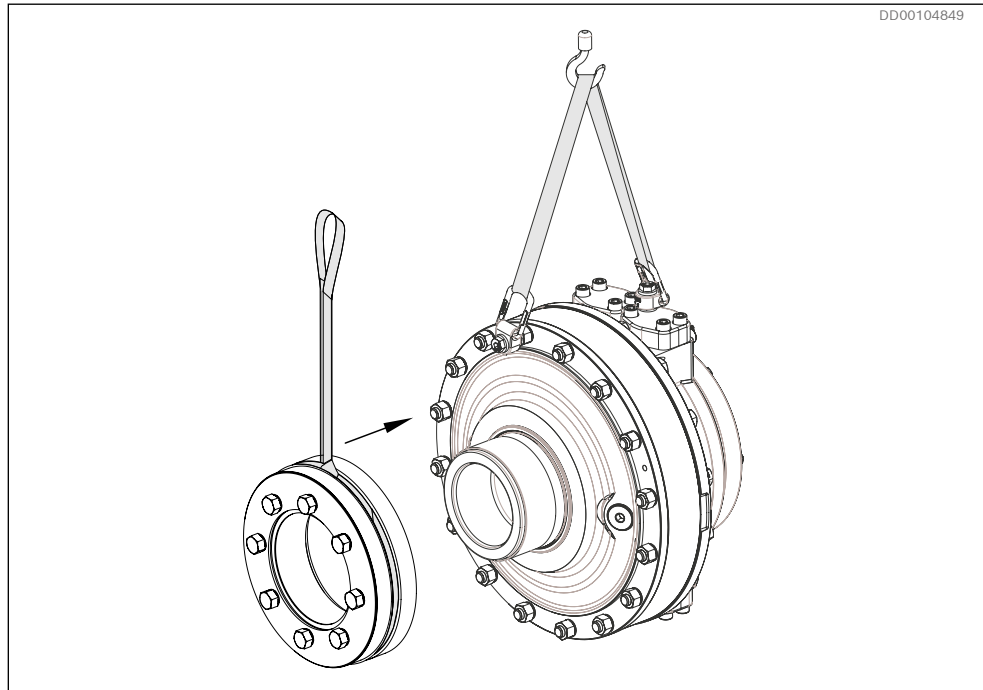
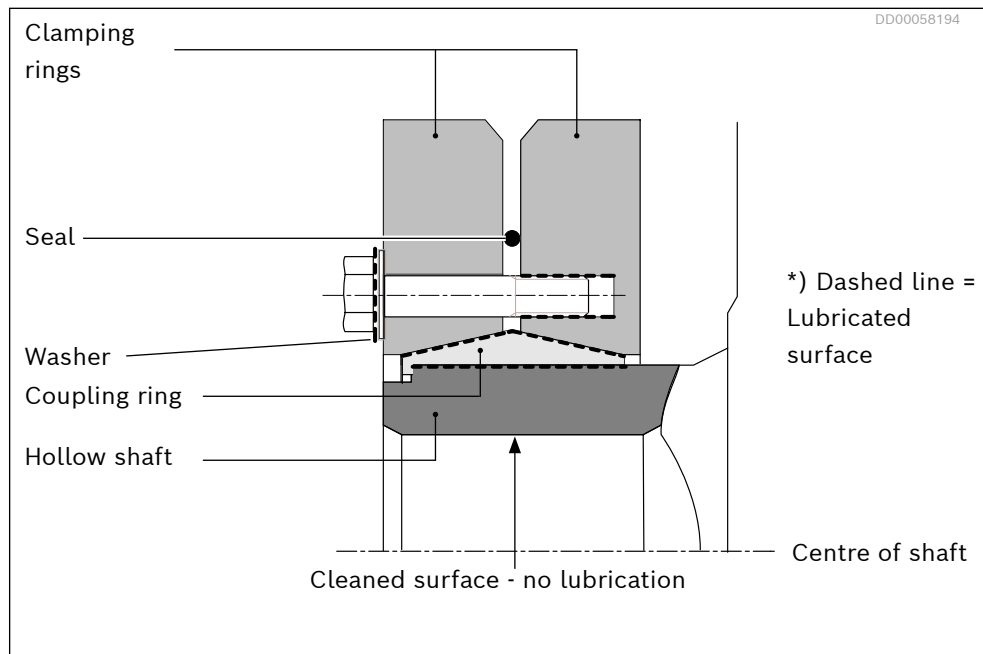

Fig. 32: Mounting of shrink disc on coupling motor
Fig. 33: Shrink disc
- ▶ Grease must under no circumstances be transferred to the surfaces between the driven shaft and the coupling motor (see *Fig. 33*).
1. The shrink disc arrives from the factory lubricated with grease on the conical surfaces and the screws (see *Fig. 33*). This lubricants shall remain on these surfaces.
4. Mount the shrink disc on the hollow shaft. Use an approved sling between the clamping rings (see *Fig. 32* and *Fig. 33*). The coupling must be pushed completely to the stop of the hollow shaft. If necessary separate the clamping ring for easier mounting.
*) The conical surface between the coupling ring and the clamping rings as well as the screws shall be coated with Molykote G-Rapid plus paste, (see Fig. 33). This is done from the factory at delivery.